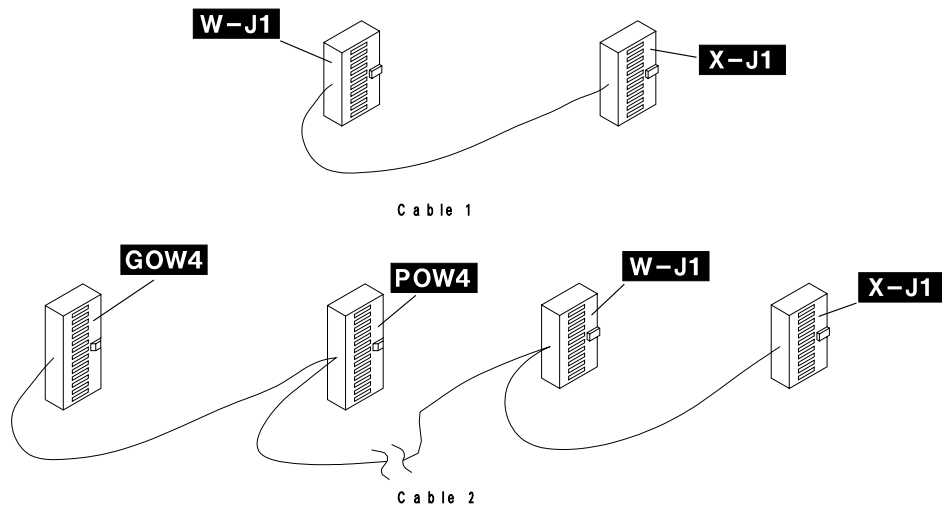

Figure 4-13. DICO Cables
Step 3. \_\_\_\_ Determine the type of the LAB1 board. The first LAB in the machine at location 01G-A1 can be either a TSST or TSSB type. A LAB type TSSB can be identified by the presence of a board address card in 01G-A1-B2. This is a small single-position wide card. If a four-wide card or no card is present, then the board is a TSST type. If you have a **TSSB** board obtain the DICO  **cable 1** PN 43G3180, for a **TSST** board obtain  **cable 2** PN 43G3181 (see Figure 4-13).